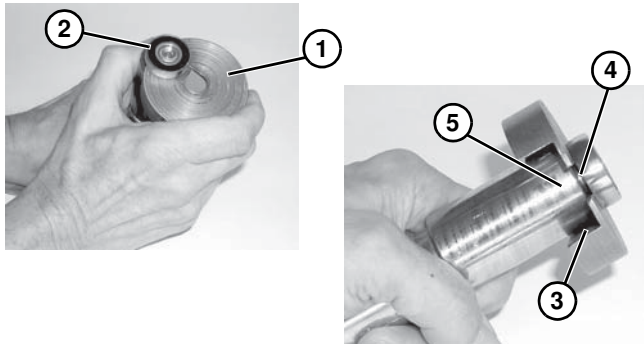

Figure 69
1. Place bearing removal tool (**Figure 69, item 1**) (part # 456063) below bearing (**Figure 69, item 2**) with lip (**Figure 69, item 3**) located in gap (**Figure 69, item 4**) between bearing and spindle hub (**Figure 69, item 5**) as shown.